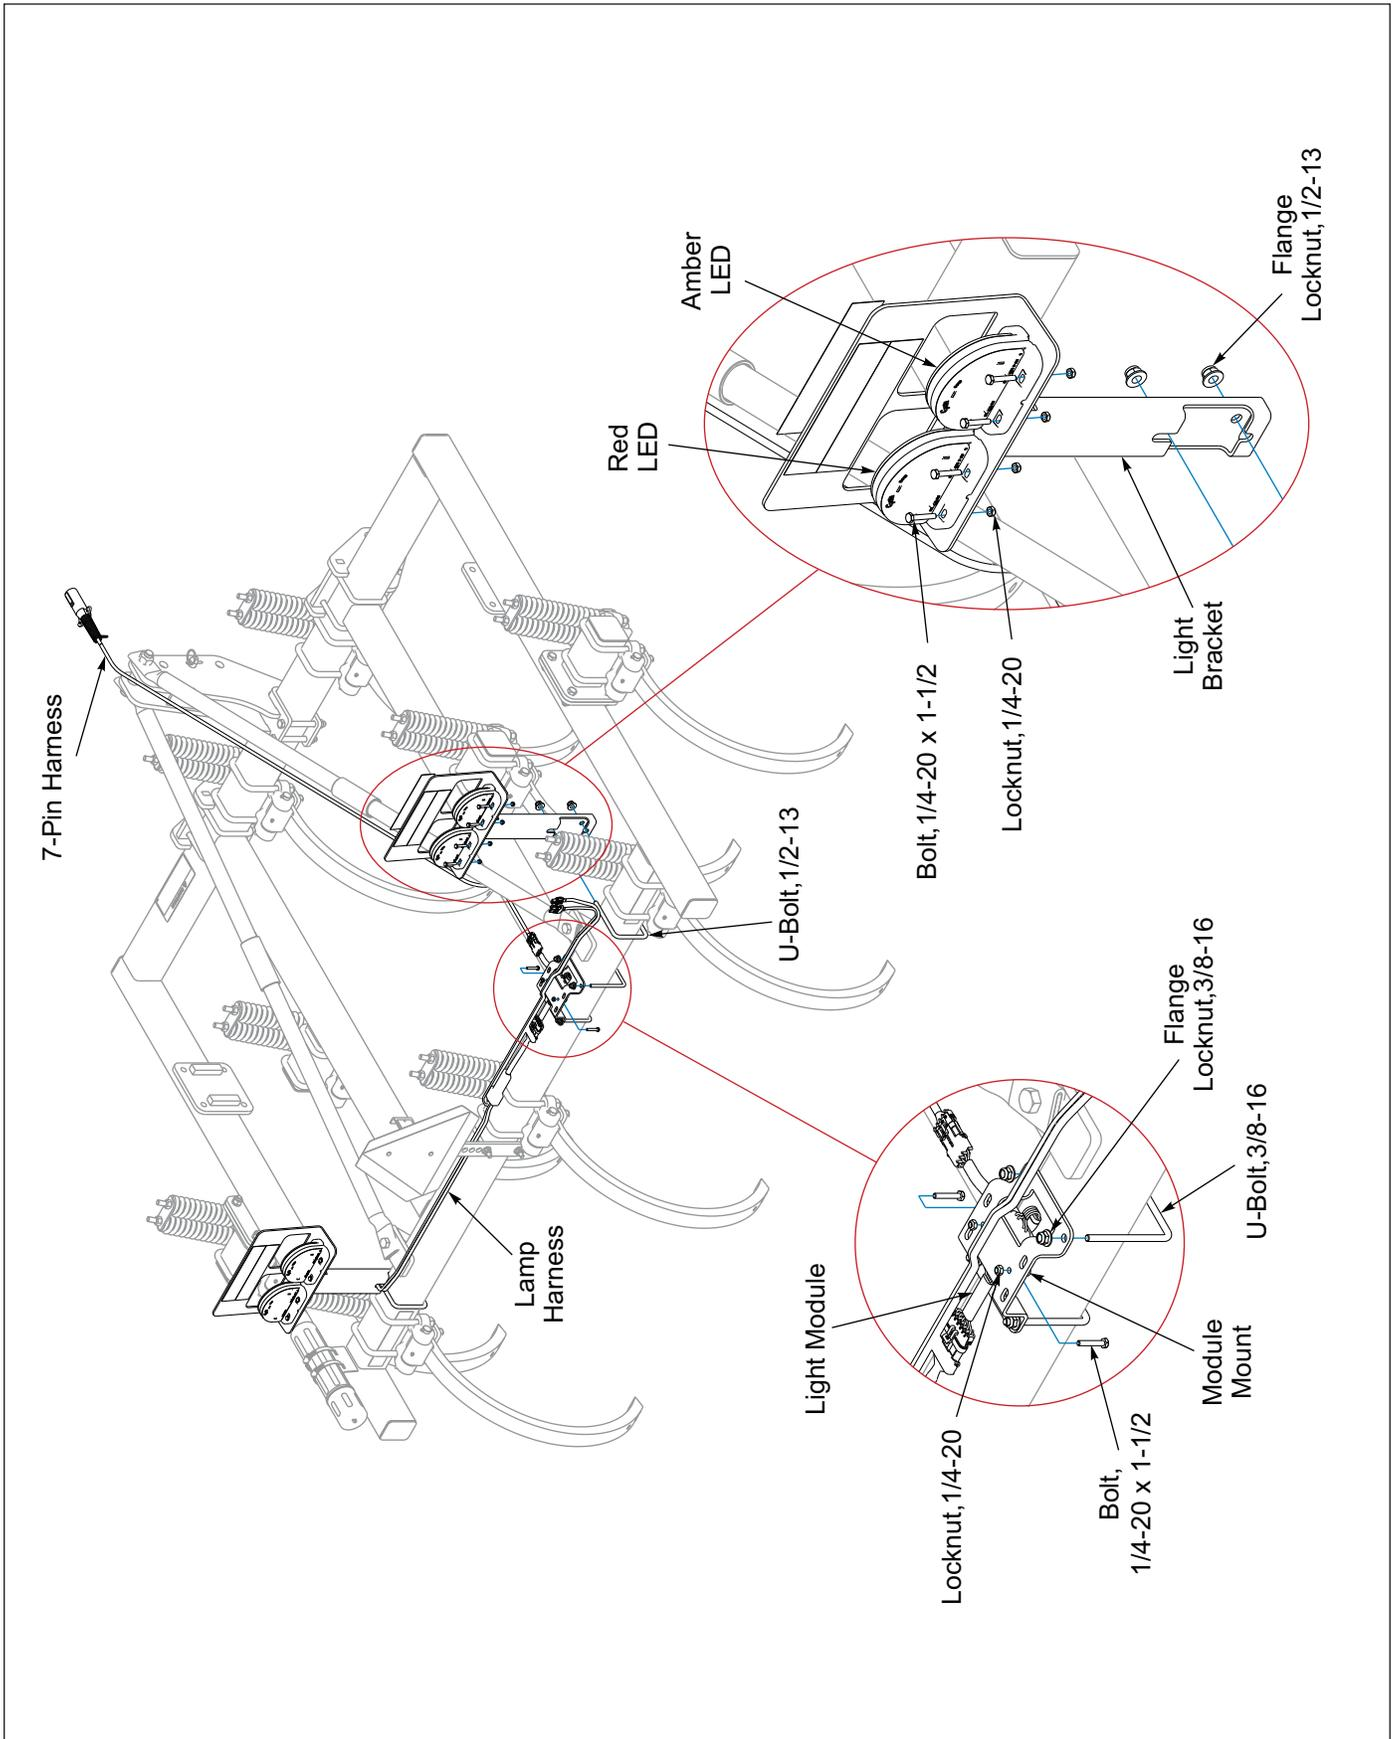

Figure 2-19: 7FT and 9FT LED Warning Lights Layout
1. Attach the 2 (two) Light Brackets to the rear frame using the 1/2-13 U-Bolts and Nuts. On the 11FT Models the Light Brackets are attached the 2 (two) foot extensions. **See Figures 2-19, 2-19, and 2-21.**
2. Attach Amber LED to the outside of the Light Bracket using (4) 1/4-20 x 1-1/4 Screws and Locknuts, then attach the Red LED next to the Amber LED using (4) 1/4-20 x 1-1/4 Screws and Locknuts
3. Attach the Light Module to the Module Bracket using (2) 1/4-20 x 1-1/2 Screws and Locknuts.